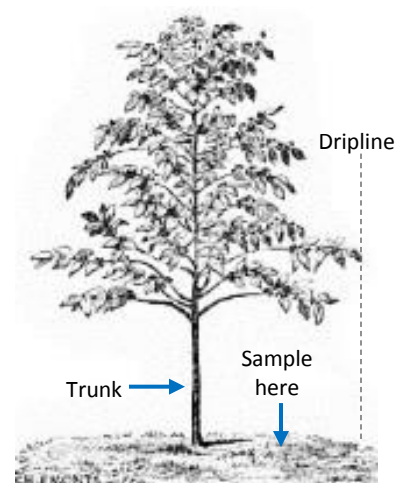

Fig. 1: Soil is sampled from the mid-point between the dripline (widest point of the branches) and the trunk of the tree.
3. Midway between the trunk and the drip line (fig. 1) clear away the surface soil, debris (leaves, fruit, weeds, etc.) and any fertilizer residue.